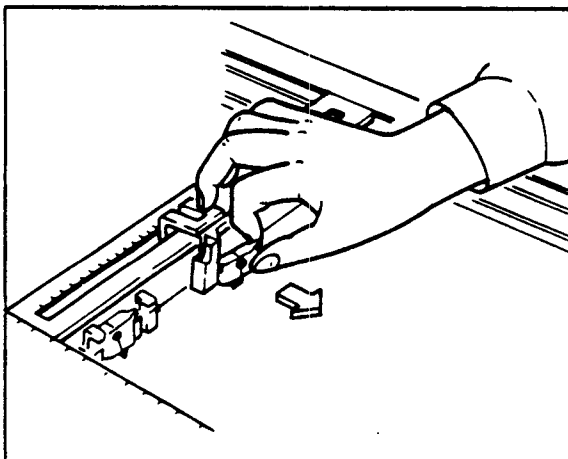

Figure 3-4.
- (3) Remove the pen cartridge from the penholder in the reverse order: press the edge of the cartridge towards you to put it out of the clip (Figure 3-4).